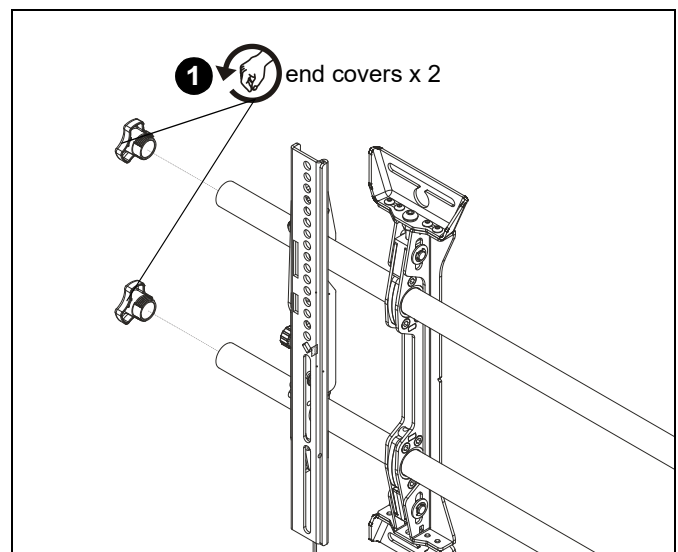

Figure 3
1. Remove end covers from existing mounting system. (See Figure 3)